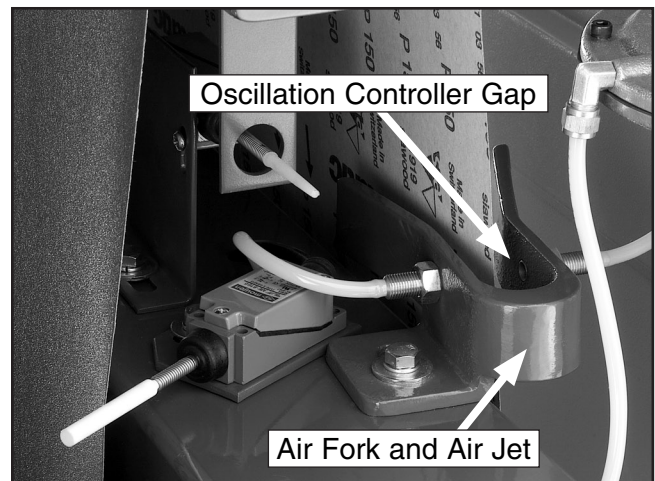

Figure 26. Oscillation components.
3. An adequate stream of air through the air fork gap (**Figure 26**) is essential for proper oscillation. If the jet of air is weak through the gap, the belt will track away from the controller and into the limit switch on the opposite end of the roller. The pivot action of the upper roller, and the resulting oscillation of the belt, are dependent upon adequate airflow through the air fork gap.